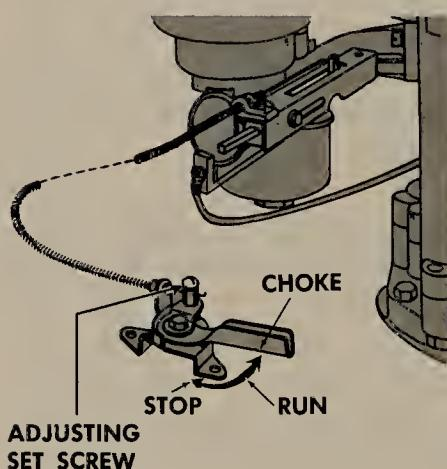

FIGURE 15.8 Adjustable, manually operated choke. (Briggs and Stratton Corporation.)
15.8 Choke Adjustment. Most chokes in carburetors for small engines are of the manual type, controlled by linkage to a choke lever. One typical example is shown in Fig. 15.8. To adjust this choke, remove the air cleaner so you can see the choke action. Move the control to the fully closed position. The choke should be closed. If it is not, adjust the control linkage. Then move the control to the fully open position to make sure the choke also moves to the fully open position.